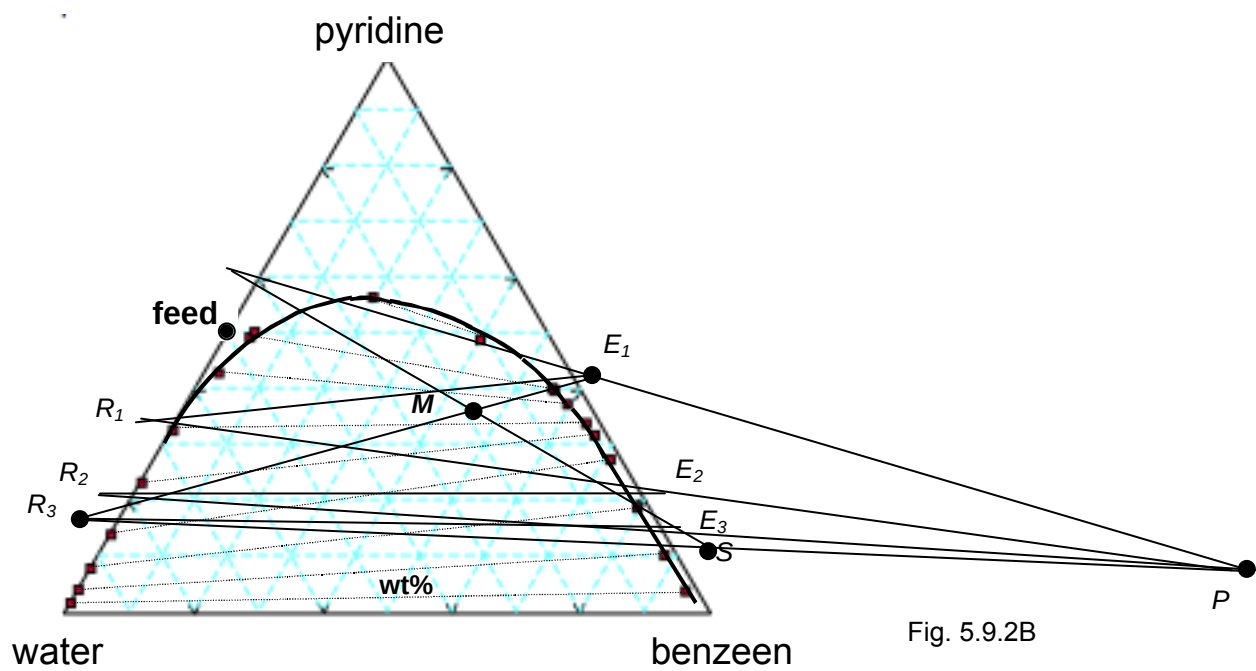

Fig. 5.9.2B
- $S = F$, hence the new mixing point M is exactly halfway F and S_{min} (see Fig. 5.9.2B). Draw a straight line from R_N to M and extend until its intersection with the phase line. This gives point E_1 . Lever rule: $E_1/(E_1 + R_N) = MR_N/E_1R_N = E_1/(F + S)$, $E_1 = 0.173 \text{ kg s}^{-1}$.